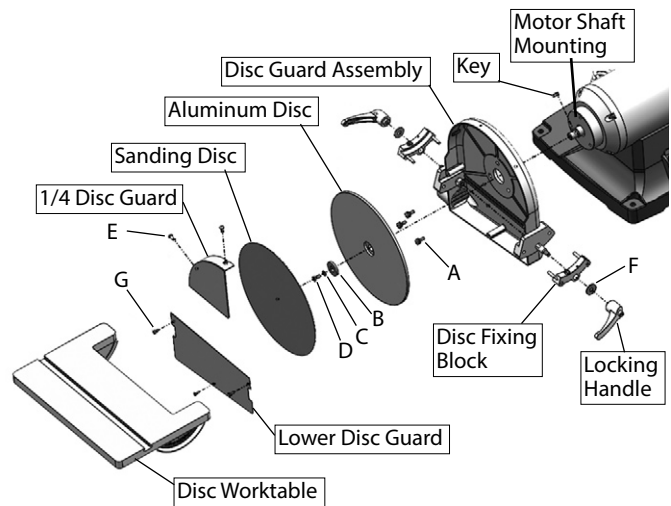

Figure 1 – Install disc.
Refer to Figure 1.
1. Place disc guard assembly onto motor shaft mounting. Ensure that guard assembly is level and flush to motor mounting, align screw holes and attach guard using three M6 × 16 screws (A).
2. Place key into key slot on shaft and align aluminum disc to key. Attach aluminum disc using disc pad (B), external tooth lock washer (C) and M6 × 16 left-hand screw (D) in sequence as shown in figure 1.